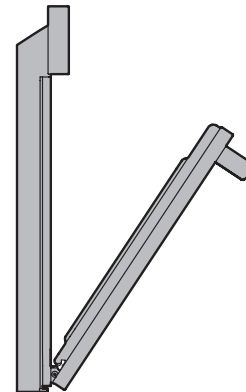

Figure 24: Removal position
3. Grasp the door by the sides, and close the door until it stops in partially open position on the locking tab (Figure 24).
2. Hold the oven door at the same angle as the removal position (Figure 24). Carefully insert the hinge levers into the oven frame until you feel the hinge levers are seated into the hinge notches. The hinge arms must be fully seated into the hinge notches before the oven door can be fully opened.